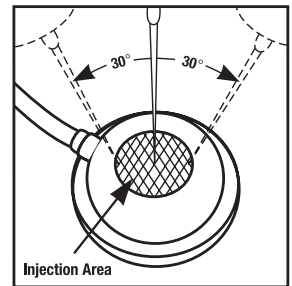

Figure 2
Inflation is accomplished by using sterile, nonpyrogenic, isotonic saline, preparing the skin, and inserting a 21 gauge (or smaller) standard bevel or Huber-tip needle into the top of the injection site, perpendicular $\pm 30^\circ$ to the base (see Figure 2). A 21 gauge butterfly needle may also be used.
- The injection site should not be penetrated with a needle larger than 21 gauge as it may not reseal. **Injections should be made only into the top of the injection site or dome, perpendicular to $\pm 30^\circ$ to the base and within the raised palpation ring (see Figure 2).**